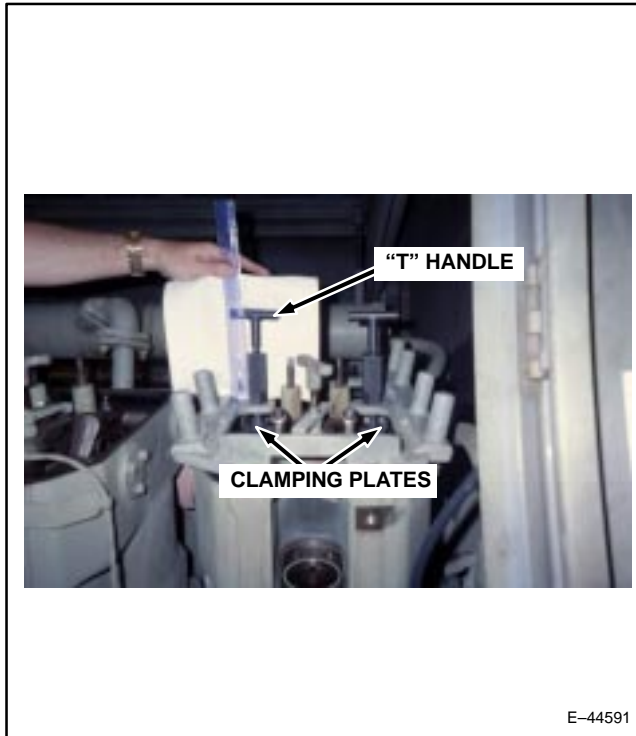

Figure 4. Align TESCO Air Motor Support Bracket Clamping Plates And "T" Handles.
- c. Rotate “T” handles until flat side of clamping plates are squared to bottom of head clamping boss and “T” handles are parallel with the rocker arm shafts (Figure 4).